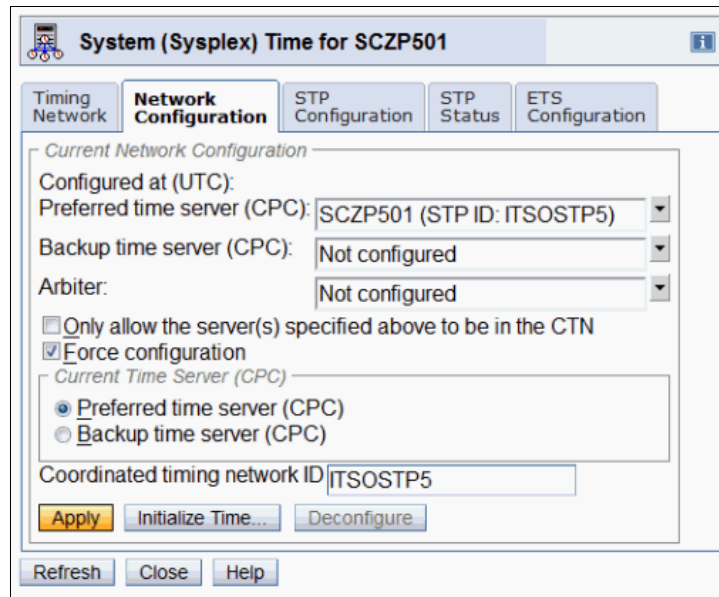

Figure 9-50 System (Sysplex) Time: Network Configuration tab: Assign PTS role
1. Click the **Network Configuration** tab on the System (Sysplex) time (Figure 9-50).